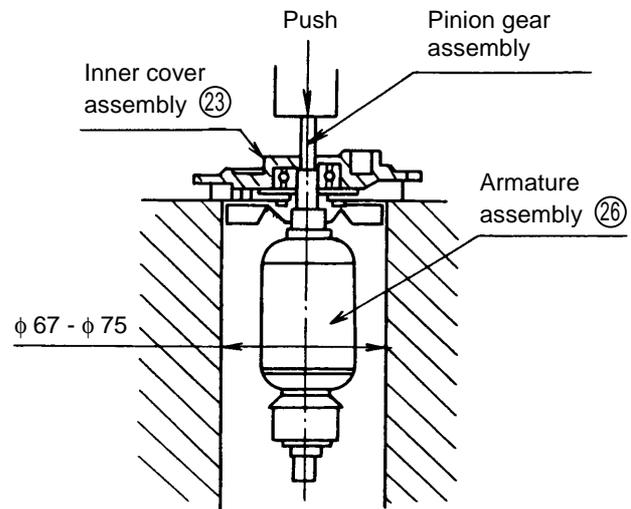

Fig. 4
(4) Pull out the armature assembly from the inner cover assembly. Receive inner cover assembly (23) with the cylindrical jig, and push the tip of the pinion gear or armature assembly (26) as shown in Fig. 4.